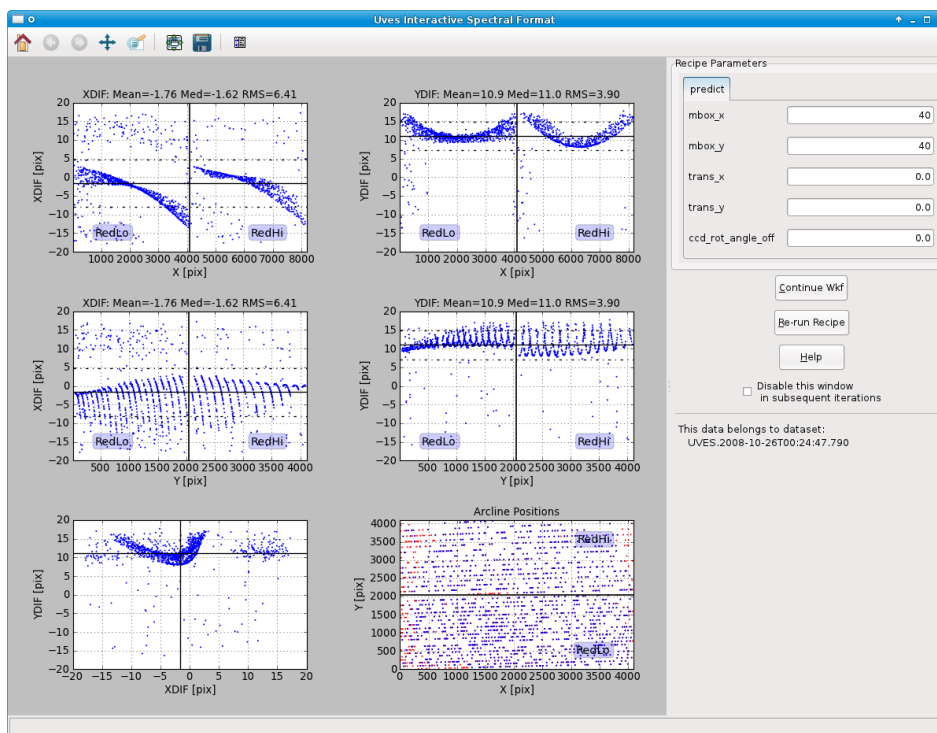

Figure 6.7: The interactive window for the Spectrum Locator actor for the first DataSet in the data supplied with Reflex 2.4..
6. `Spectrum Locator`: During the execution of the `Spectrum Locator` actor, an interactive window will appear as shown in Figure 6.7. The interactive window consists of six plots, five pipeline recipe parameters that may be changed, three buttons on the right, and a panel of buttons at the top-left. Help for each of these features may be accessed by leaving the mouse pointer for about one second over the plot/parameter/button for which information is required. Note that the recipe parameters are grouped via labels at the top of the “Recipe Parameters” box that may be left-clicked on to reveal the associated parameters.